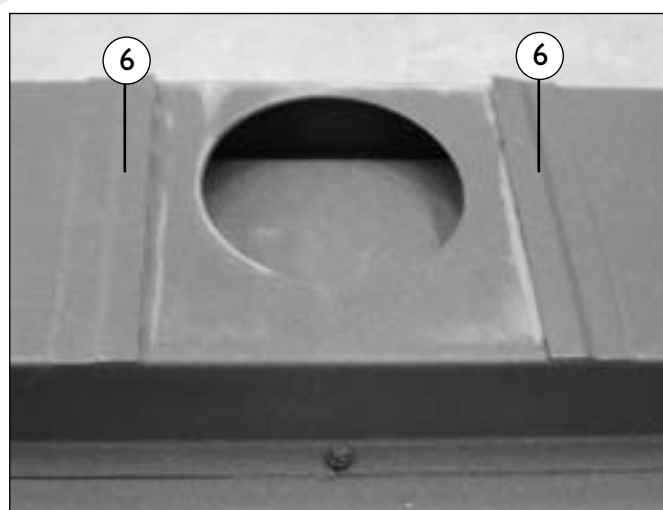

fig. 3
- Reconnect the outlet connector (4) with the 2 self-tapping screws (5). After tightening the self-tapping screws, loosen them 1/8 turn to make it easier to slide the sides of the outlet connector between the slots (6) in the baffle, (fig.3).
- Slide the interior back into the casing. The outlet will automatically be centred in the slots (6) of the baffle. Fix the interior in place with the 4 socket-head screws (3).